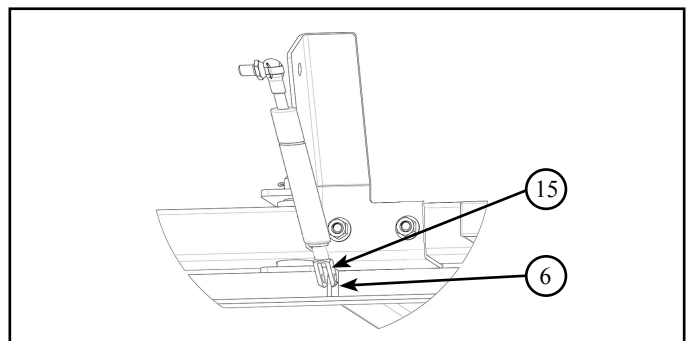

Figure 3.15 - Gas Spring / Bed Frame
1. Align fork end of the gas spring (15) with bed frame (6) mount hole, secure with quick connect clip/pin. *Refer to Figure 3.15*